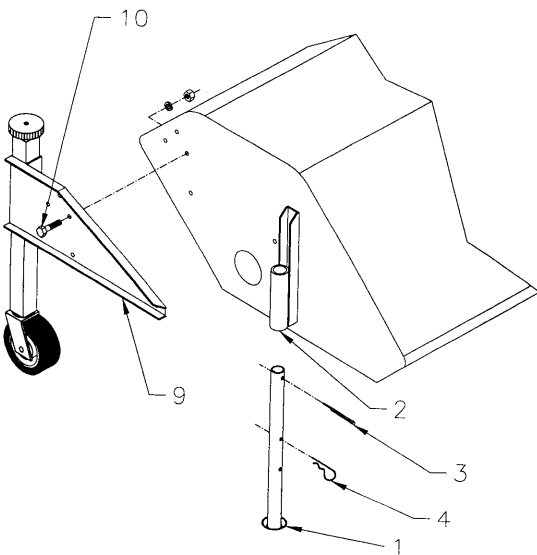

Figure 1
1. Insert a parking stand (fig.1, item 1) in each stand support (fig.1, item 2) from the underside and install a 5/32" x 1 1/4" cotter pin (fig.1, item 3) in upper hole of parking stands. Set parking stands in most extended position and secure with two 4mm x 80mm hairpins (fig.1, item 4) on underside of supports.
4. Install both caster wheels (fig.1, item 9) to broom using eight 5/16" x 1/2" flange bolts and nuts.(fig.1, item 10) on each side [five on the right side and three on the left side].